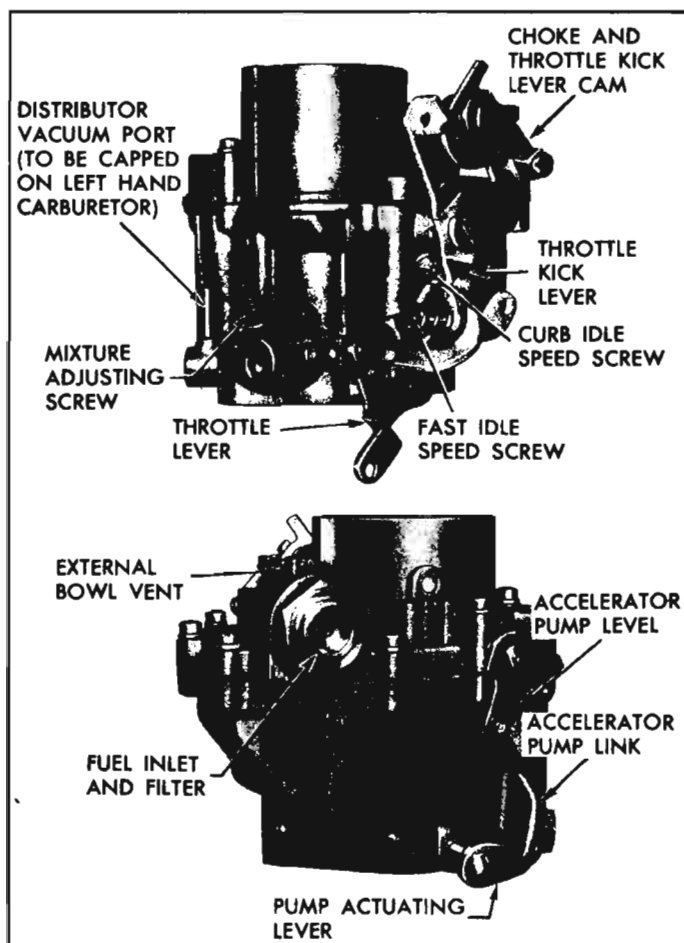

Fig. 9-1—Rochester Model "H" Manual Choke Carburetor
The Corvair engine uses two identical Rochester Model "H" manual choke, single-barrel downdraft carburetors (figs. 9-1 and 9-2), one located on each intake manifold. Each carburetor is separated from the engine manifold by an insulator block. Each carburetor is equipped with a manual choke controlled
- a. Back the curb idle speed and fast idle speed adjustment screws (fig. 9-1) away from carburetor throttle shaft lever.